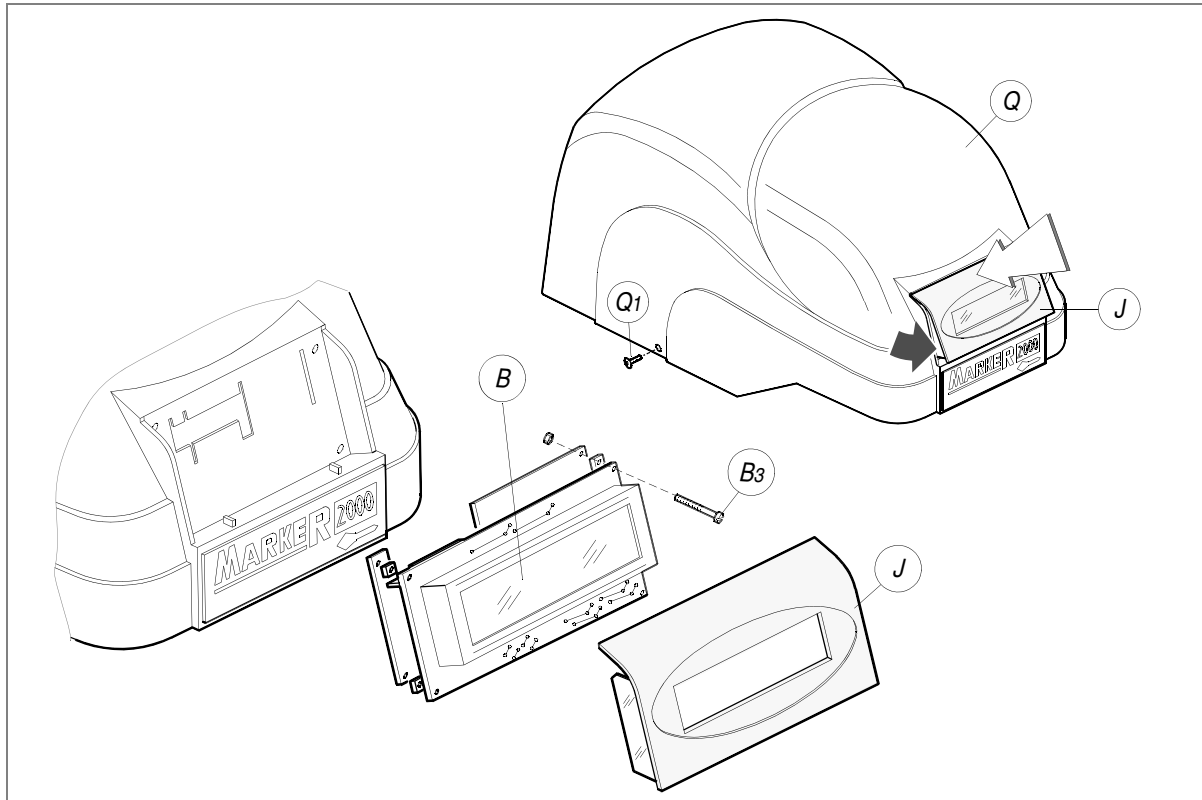

Fig. 38
- 2) raise and remove the top cover (Q) (ch.9.4), disconnect the connector (B1) and faston (B2) from the display.
- 3) take hold of the mask (J) and remove, exerting leverage on the top of it (fig. 38).
- 6) re-connect the faston (B2) and connector (B1), replace the cover (Q) on the machine and secure with the four screws (Q1).